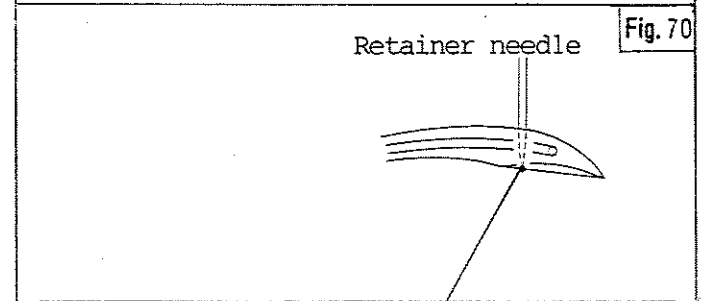

Fig.70
LOOPER THREAD TAKEUP ADJUSTMENT(Fig. 70)
- As shown in Fig.70, ⑩ should be installed so that Stop Screw ⑫ comes to the center of the ring opening.